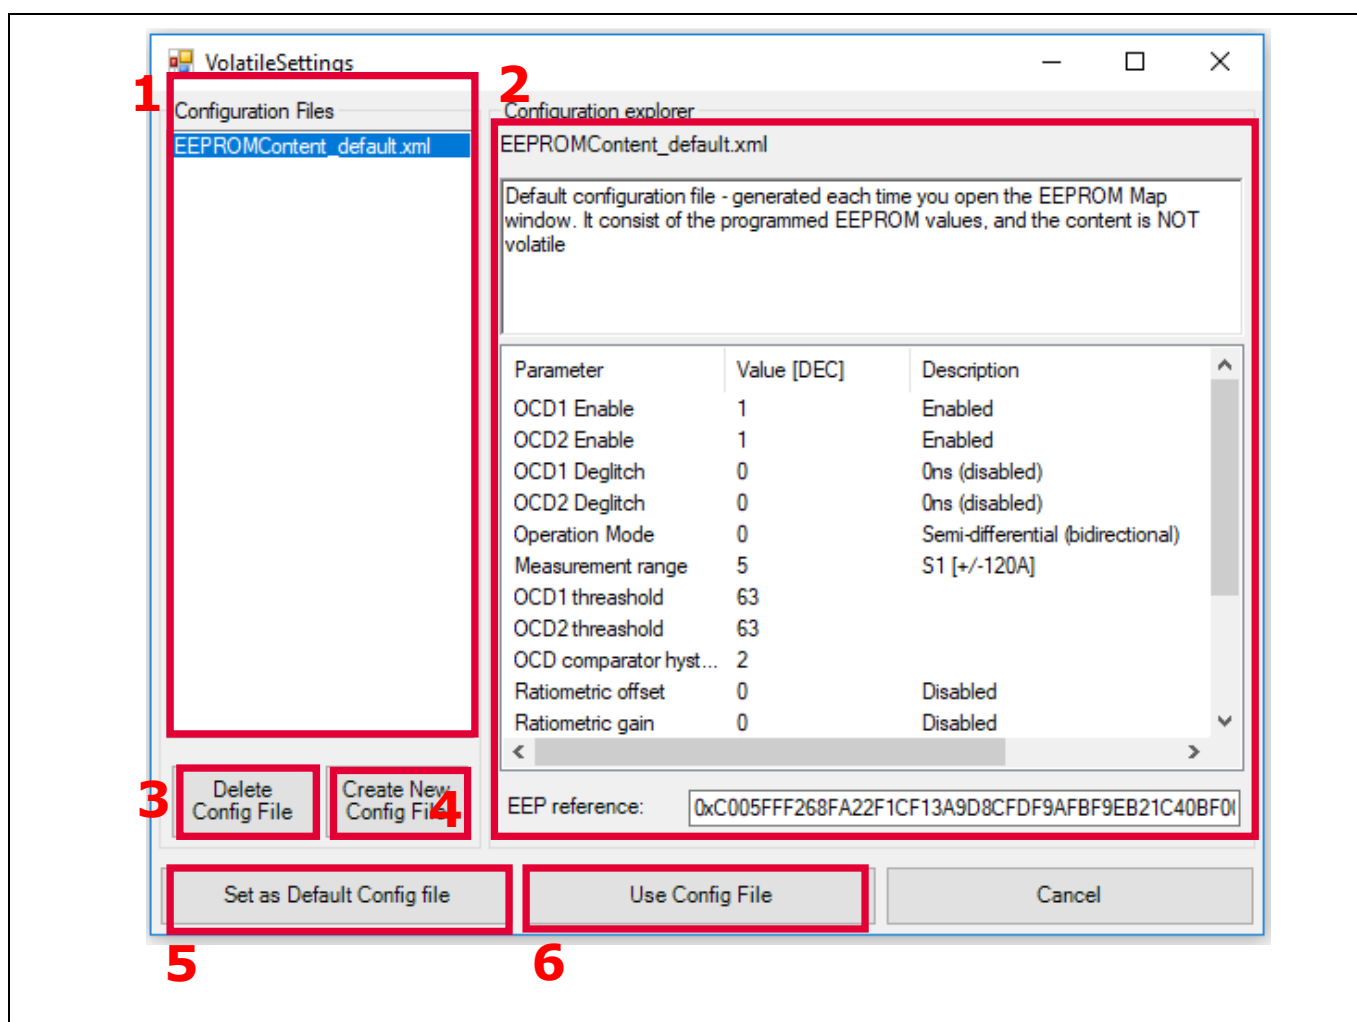
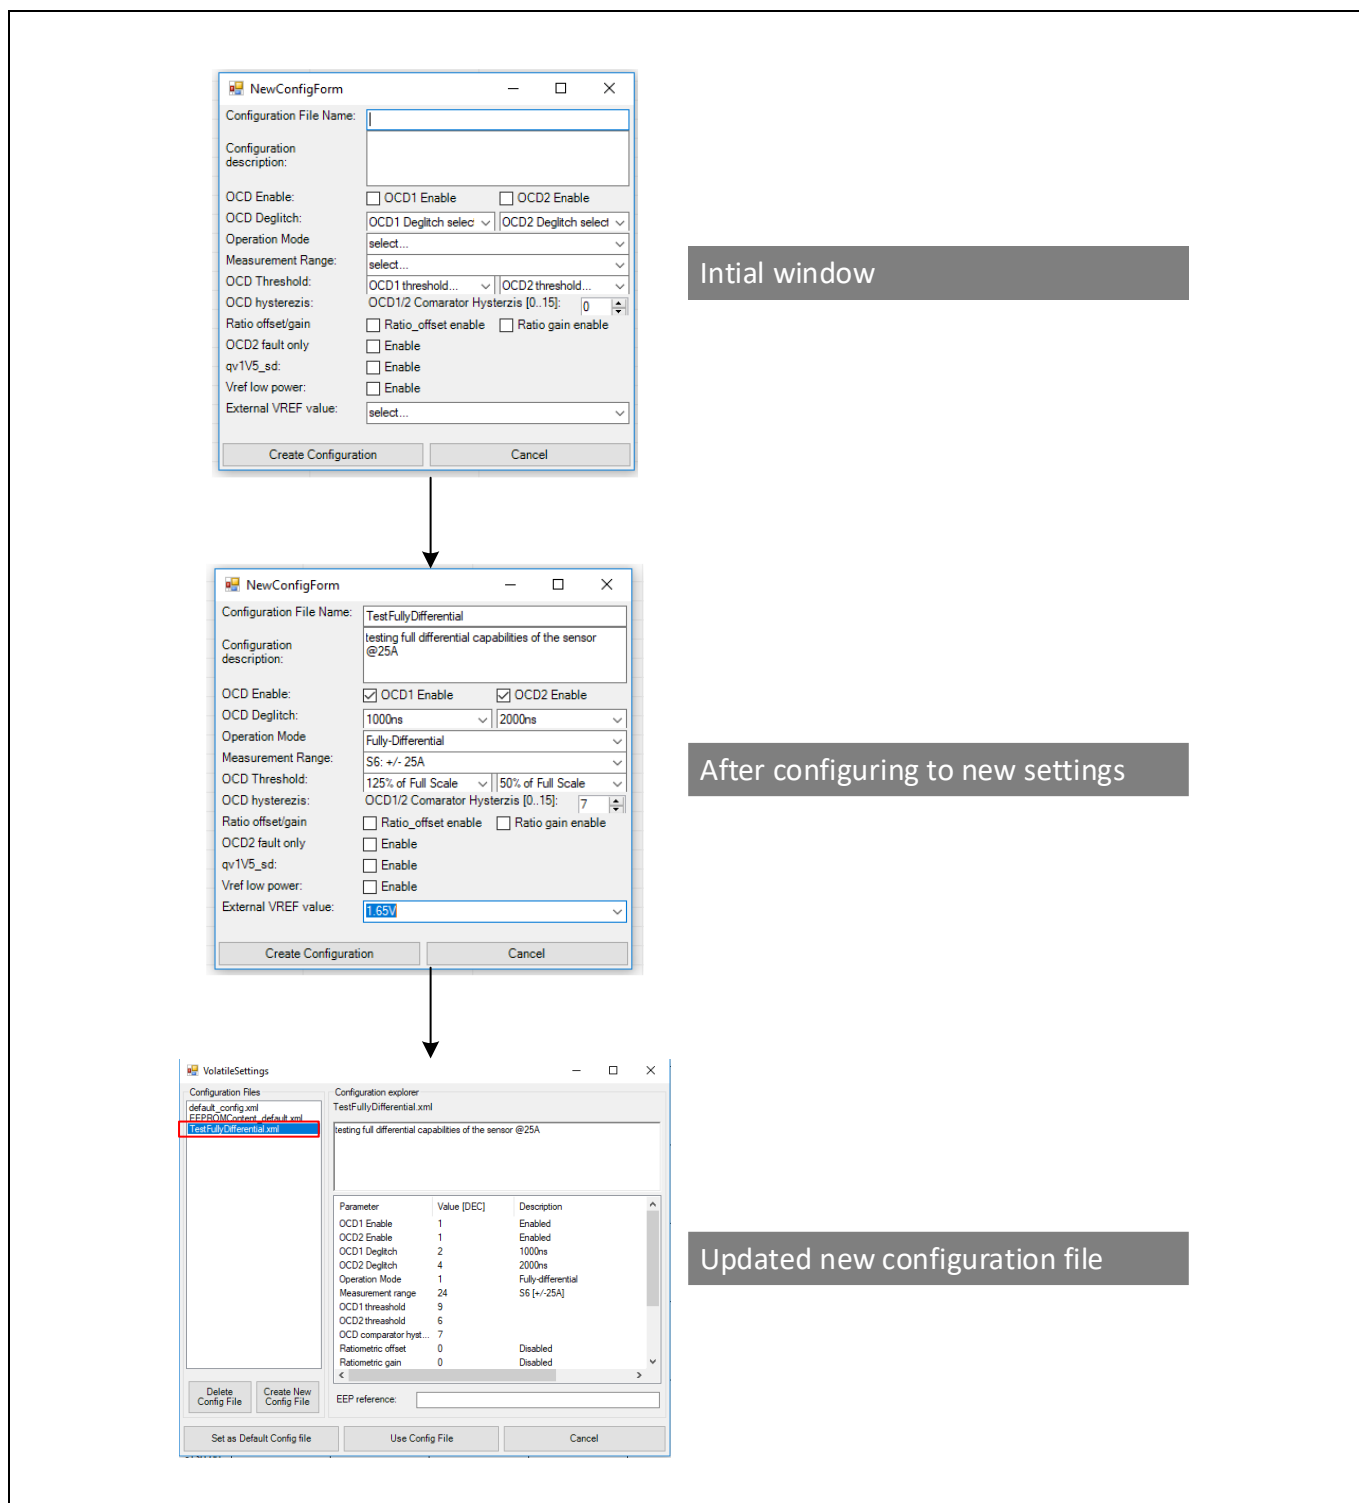

Figure 19 Volatile Settings Window
Figure 20 New Configuration File Creation
When the user selects the ‘VolatileSettings’ menu item, the window shown in Figure 19 will open, here, initially the user will find the existing configuration file which is “EEPROMContent_default.xml”. This file is automatically generated by the Software (SW) based on the preprogrammed EEPROM settings in the sensor. This main window components are described as follows.
- “Configuration Files” pane list (see ‘1’ in Figure 19) all configuration files are automatically stored under Users/<CurrentUser>/AppData/Local/InfineonCurrent2GoTemp\ConfigFiles. All XML files at this location will be parsed by the SW and checked if it is a valid sensor configuration.
- “Configuration Explorer” pane (see ‘2’ in Figure 19) displays the parameters stored by the configuration file (name, description, sensor parameters).
- “Delete Config File” (see ‘3’ in Figure 19), by pressing this button, the configuration file will be physically deleted from the disk and from the list.
- “Create New Config File” (see ‘4’ in Figure 19), by pressing this button, a new window will pop-up allowing the user to create a new configuration file which has shown in Figure 20.
- “Set as Default Config file” (see ‘5’ in Figure 19), by pressing this button a new configuration file – as copy of the selected one, named “default_config.xml”. If this configuration is found at startup, it will be automatically loaded into the sensor RAM.
- “Use Config File” (see ‘6’ in Figure 19), by pressing this button, the configuration parameters will be set into the RAM of the sensor.
The following Figure 20 shows the new configuration file creation flow to modify the existing current sensor parameters, where all text fields (name / description) shall have a value in the below shown figure. All selection boxes such as deglitch, Operation mode, measure range, threshold, VREF value shall have a selection. Finally,